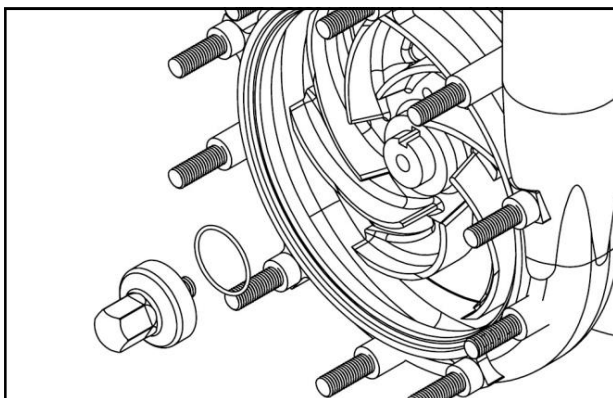

Figure 20
11. Lubricate the impeller screw gasket and place it on the impeller screw. Start to thread the impeller nut onto the motor shaft by hand, Figure 20.